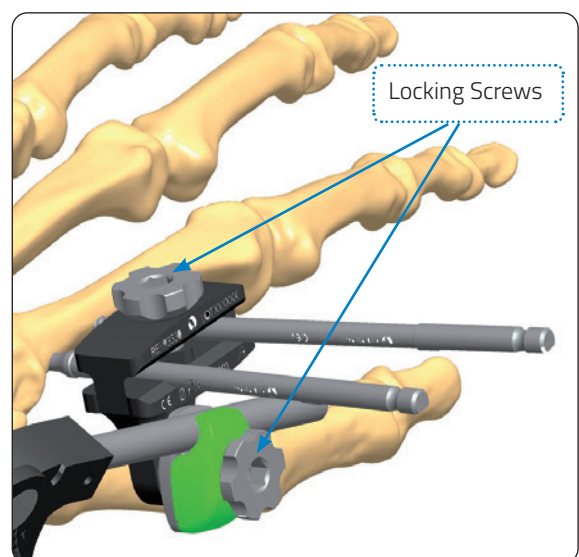

**Fig. 10**
- Set up the wrist module in neutral position with the two rods longitudinally aligned and tighten the Arch Nut with the Allen Wrench (**Fig. 10**)